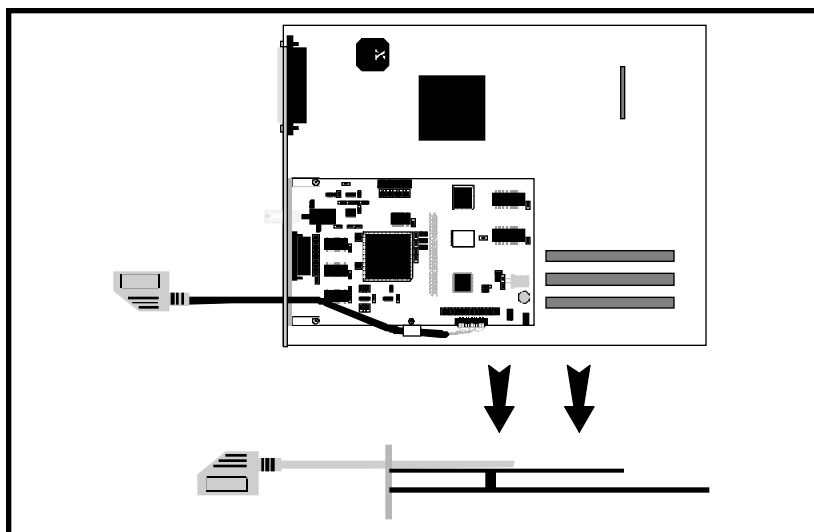

figure 2.2
- ▲ Gently press the card straight down onto the controller board until the unit is firmly in place (see fig. 2.2).